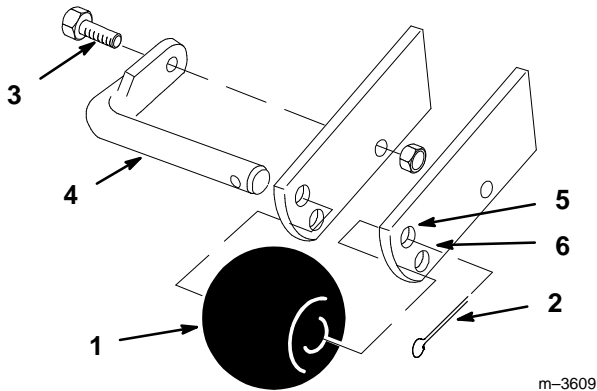

Figure 28
2. Remove the cotter pin, bolt and shaft to change hole location (Fig. 28).
3. Select the hole position for the height-of-cut to be used and insert the rod (Fig. 28).